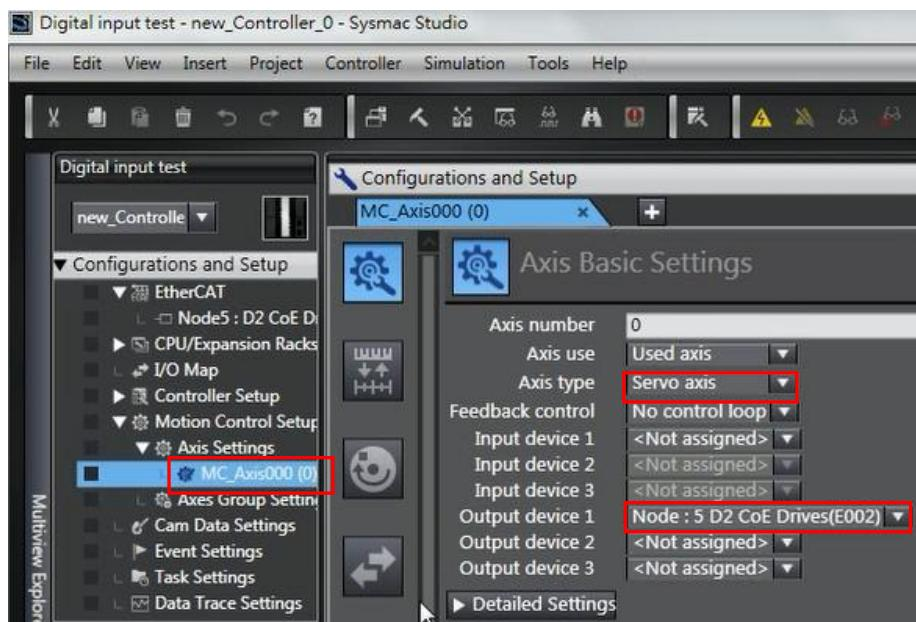

Fig. 5-45
- b. Click the icon of “Axis Basic Settings” () in “MC\_Axis000 (0)” tab to open the “Axis Basic Settings” page. Set “Axis type” to be “Servo axis” and “Output device 1” to be drive linked to this axis. In the example of Fig. 5-45, it is “Node : 5 D2 CoE Drives (E002)”.